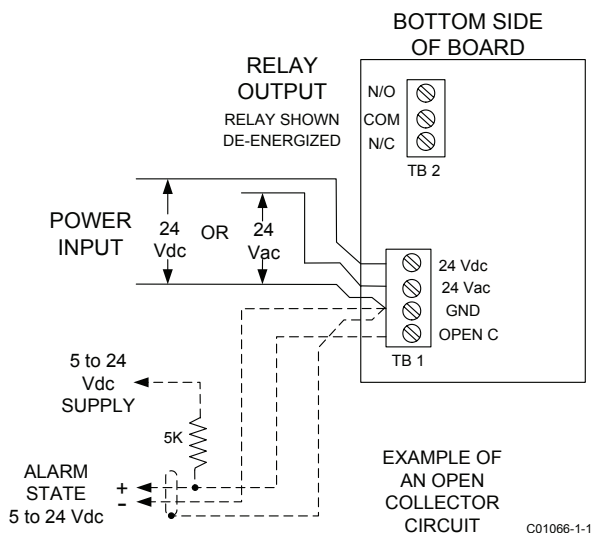

Figure 10 24 Vdc/Vac Input Power
4. Determine the type of power to be used (24Vac or 24Vdc) and attach the power leads to TB1 as indicated on the control circuit. See Figure 10. Make sure that an earth ground wire is attached to the earth ground terminal inside the housing.
5. Attach the relay load wires to TB2. The relay contact conditions are shown in the alarm state (de-energized). The relay's maximum rating is 6 amps 28Vdc-100/240 Vac, resistive loads. The minimum current and voltage rating 20 mA, 10 volts. If the load is less than these values use the open collector terminal on TB1 See Figure 10.